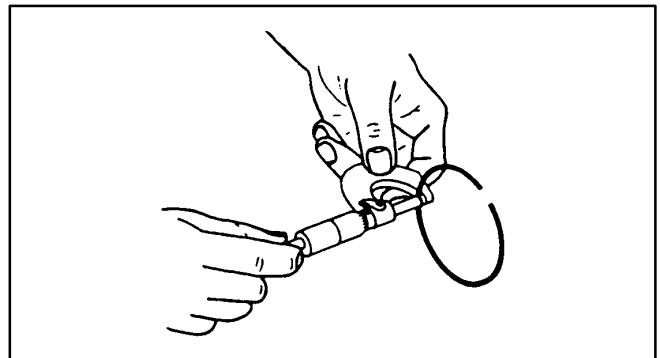

FIGURE 10-28. RING THICKNESS
1. Measure the piston ring thickness with an outside micrometer (see Figure 10-28).